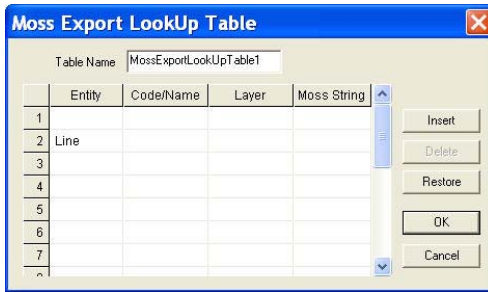

Figure 16-34. The Moss Export LookUp Table Parameters
- **New** – creates a new translation table. The *Moss Export LookUp Table* dialog box appears (Figure 16-34).
- **Modify** – highlight an entity, then press **Modify** to edit a translation table. The *Moss Export LookUp Table* dialog box appears (Figure 16-34 on page 16-50).